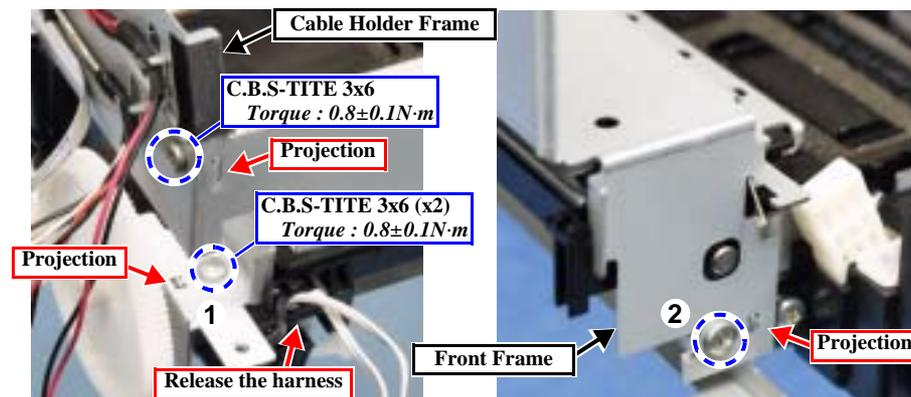

Figure 4-71. Removing the Front Frame
3. Release the harness of the CD-R sensor from the hook of the Eject Frame. (Fig. 4-71)
- After installing the Front Frame, confirm the engagement of the projections (x2), and then tighten the screws in the specified order. (Fig. 4-71)
- After installing the Cable Holder Frame, confirm the engagement of the projection, and then tighten the screw. (Fig. 4-71)